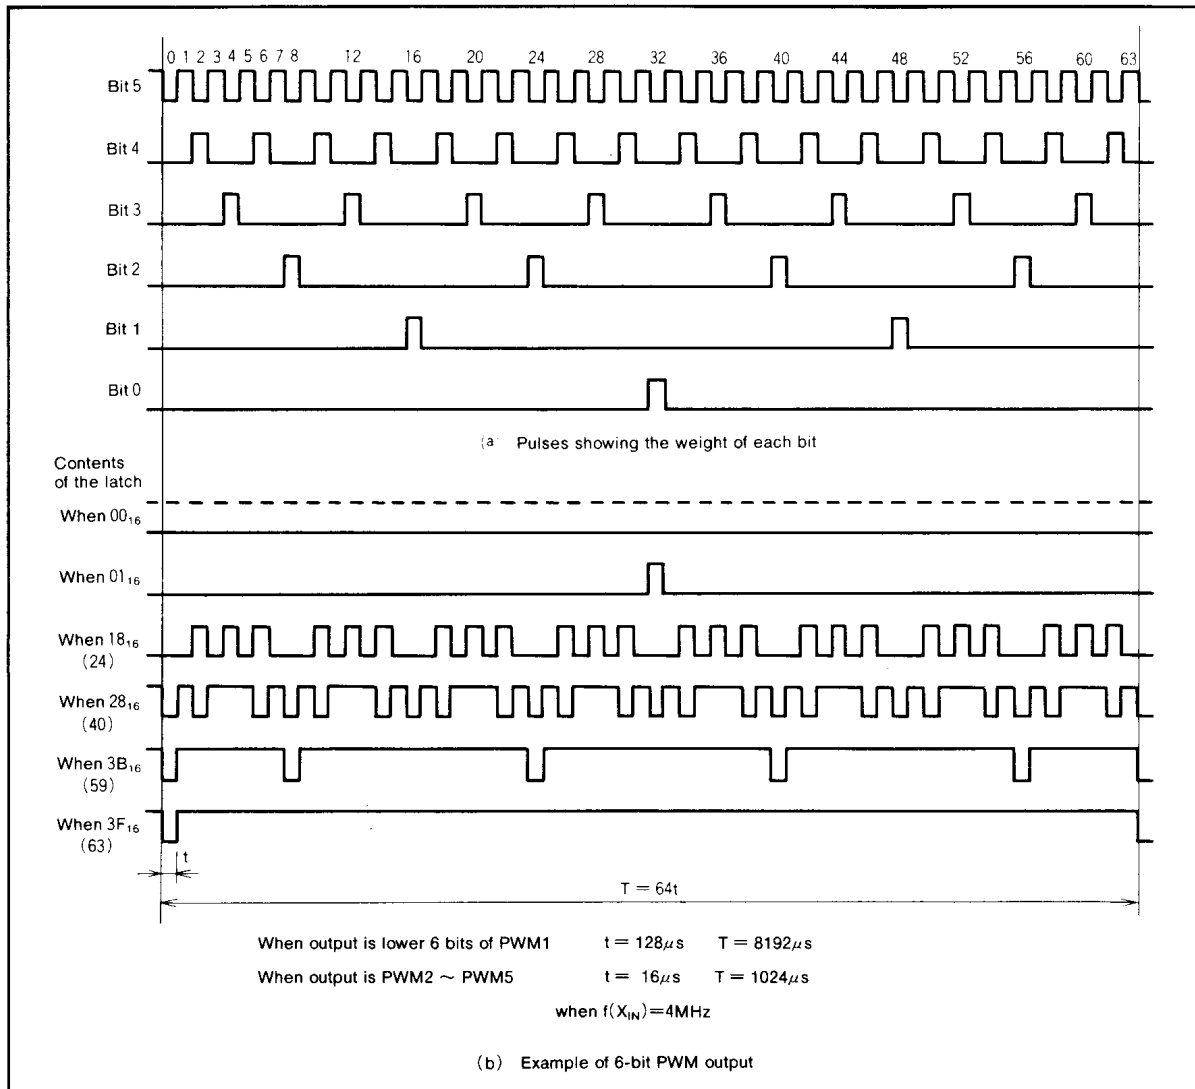

Fig. 16 6-bit PWM timing diagram
(4) Operation of the 6-bit PWMs
The timing diagram of the two 6-bit PWMs (PWM2~PWM5) is shown in Figure 16. One period (T) is composed of 64 (2⁶) segments.
There are six different pulse types configured from bits 0~5 representing the significance of each bit. These are output within one period in the circuit internal section. Refer to Figure 16 (a).
shown in Figure 16 (b). Changes in the contents of the PWM latch allows the selection of 64 lengths of high-level area outputs varying from 0/64 to 63/64. A length of entirely high-level output cannot be output, i.e. 64/64.